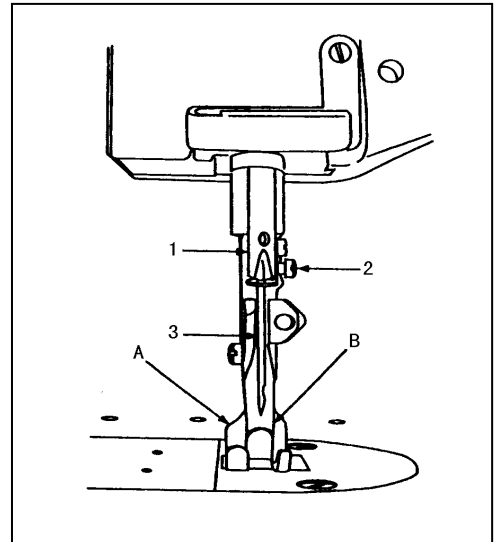

Fig.5
4. REPLACE NEEDLES (Fig.5)
2) When altering the lift of the lifting presser foot (A Fig.5) unequally against that of the vibrating presser foot (B Fig.5) or vice versa, see the instructions “ ADJUSTING THE HEIGHT OF THE PRESSER FEET ”.